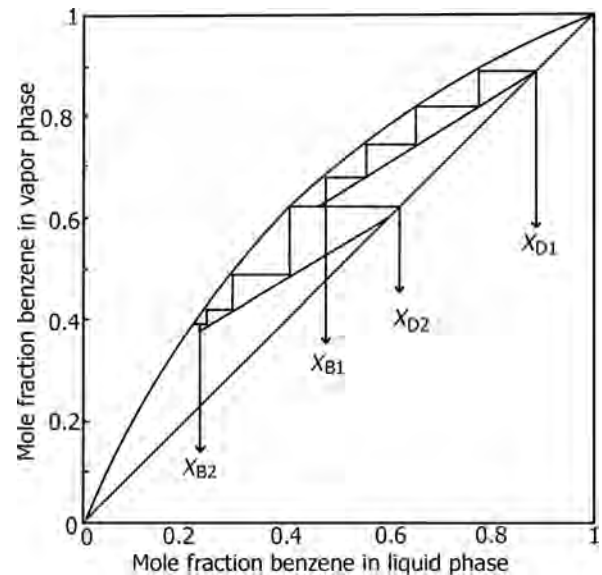

FIGURE 17.20 Batch fractionation at constant reflux ratio (for four theoretical trays).
- Figure 17.20 illustrates McCabe–Thiele construction for constant reflux ratio.